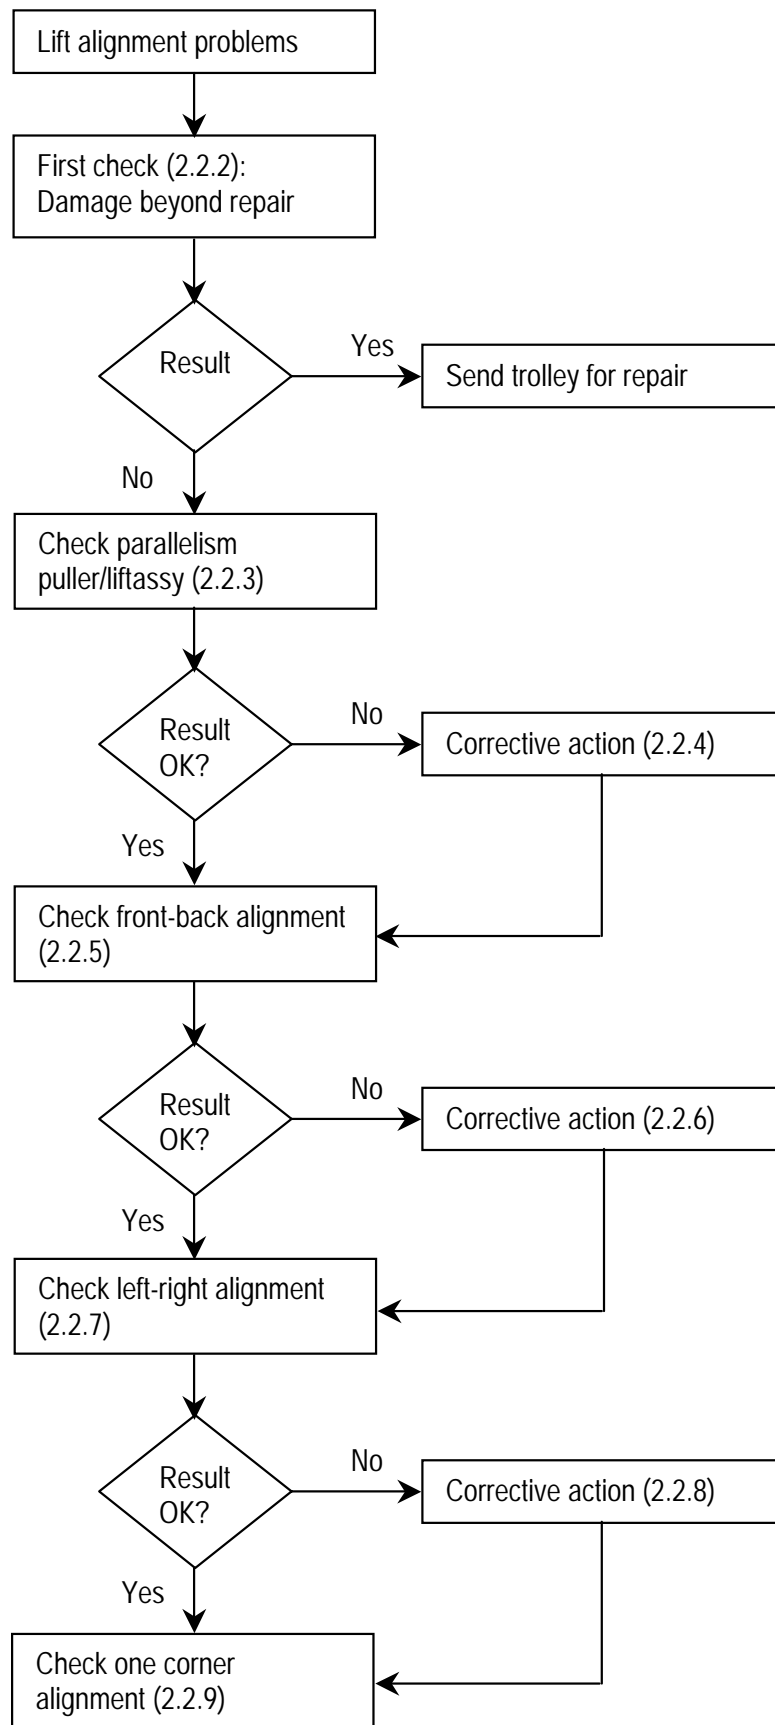
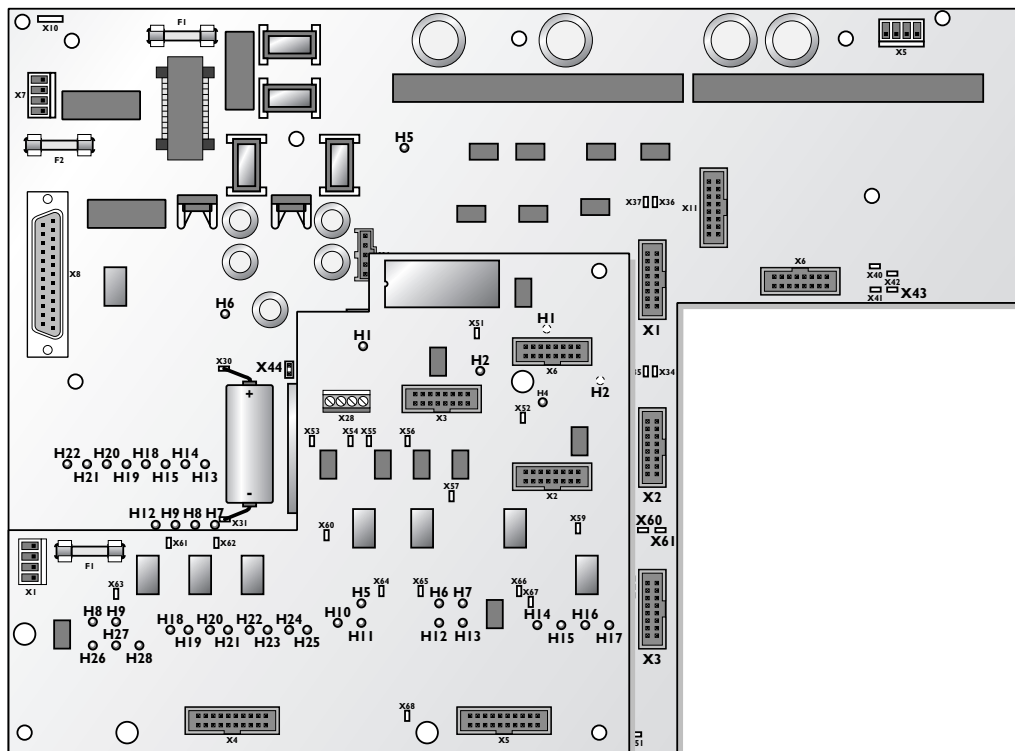

Figure 11
Figure 13 Tray trolley controller, LED status check
- Very small adjustment can be done by slightly loosen the three bolts of the small metal strip on front or rear-side wherewith the lift-plate is mounted between the vertical timing belts see Figure 11.
- Small misalignment can be adjusted by slightly loosen the three bolts of the small metal strip on front or rear-side wherewith the lift-plate is mounted between the vertical timing belts. See Figure 11.
wherewith the liftplate is mounted between the vertical timing belts. See Figure 11 and Figure 13.
- Small adjustment can be done by changing the length of the ball-joint screw (see Figure 13).